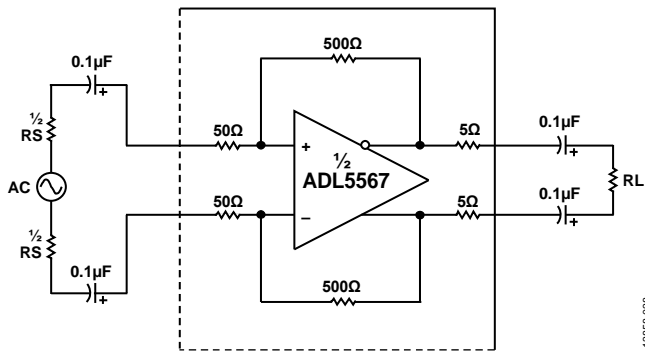

Figure 41. Differential Input Loading Circuit
The differential gain of the ADL5567 is dependent on the source impedance and load, as shown in Figure 41. The differential gain (AV) can be determined by